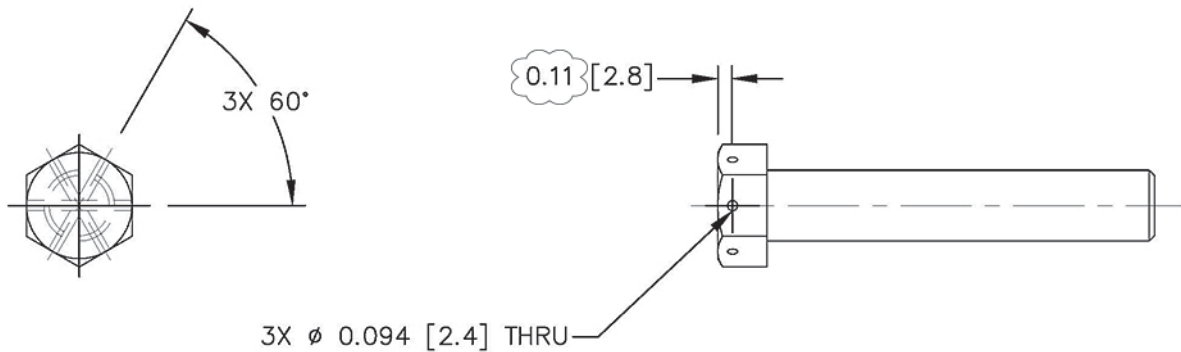

Figure 1: Bolt head drill detail
- The bolt heads can be drilled and wired to prevent the bolts from backing out. See Figures 1 and 2 below for details.
Note: Version 2.0 – Corrected typographical error on Figure 1 to show 0.11 inches instead of 0.011 inches.